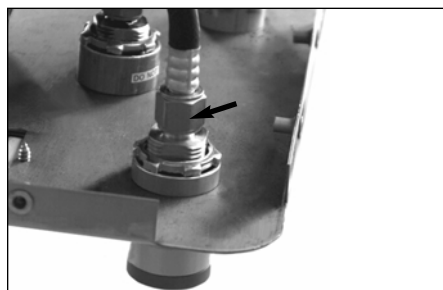

Figure 6
3. Connect the DISS hose connector to the valve and tighten. Verify that the gas service connection is correct (Figure 6).